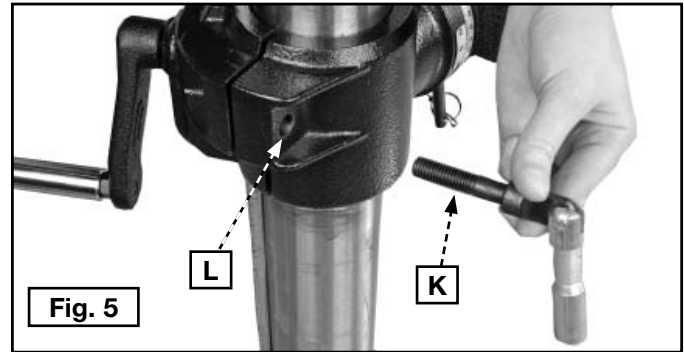

Fig. 5
3. Thread the table clamp handle (K) Fig. 5 in the hole (L) in rear of table bracket and secure tightly.